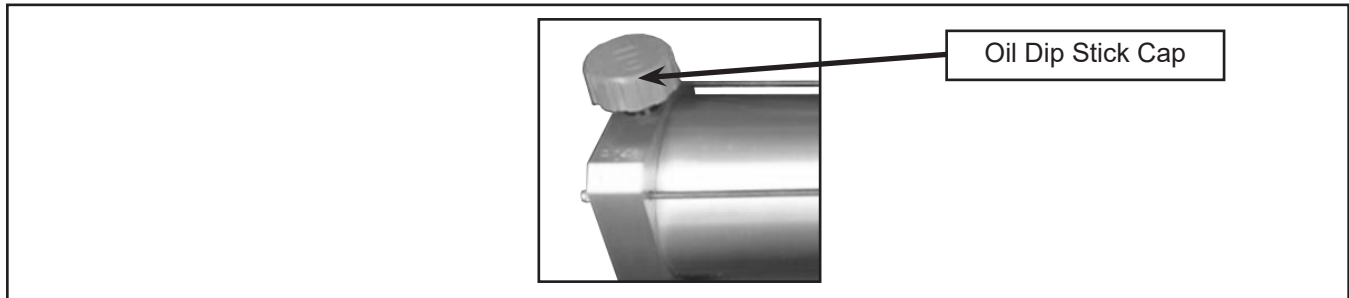

Figure 3 - Install Oil Cap
- 1.9. Install the cap with the oil dip stick onto the reservoir (Figure 3).